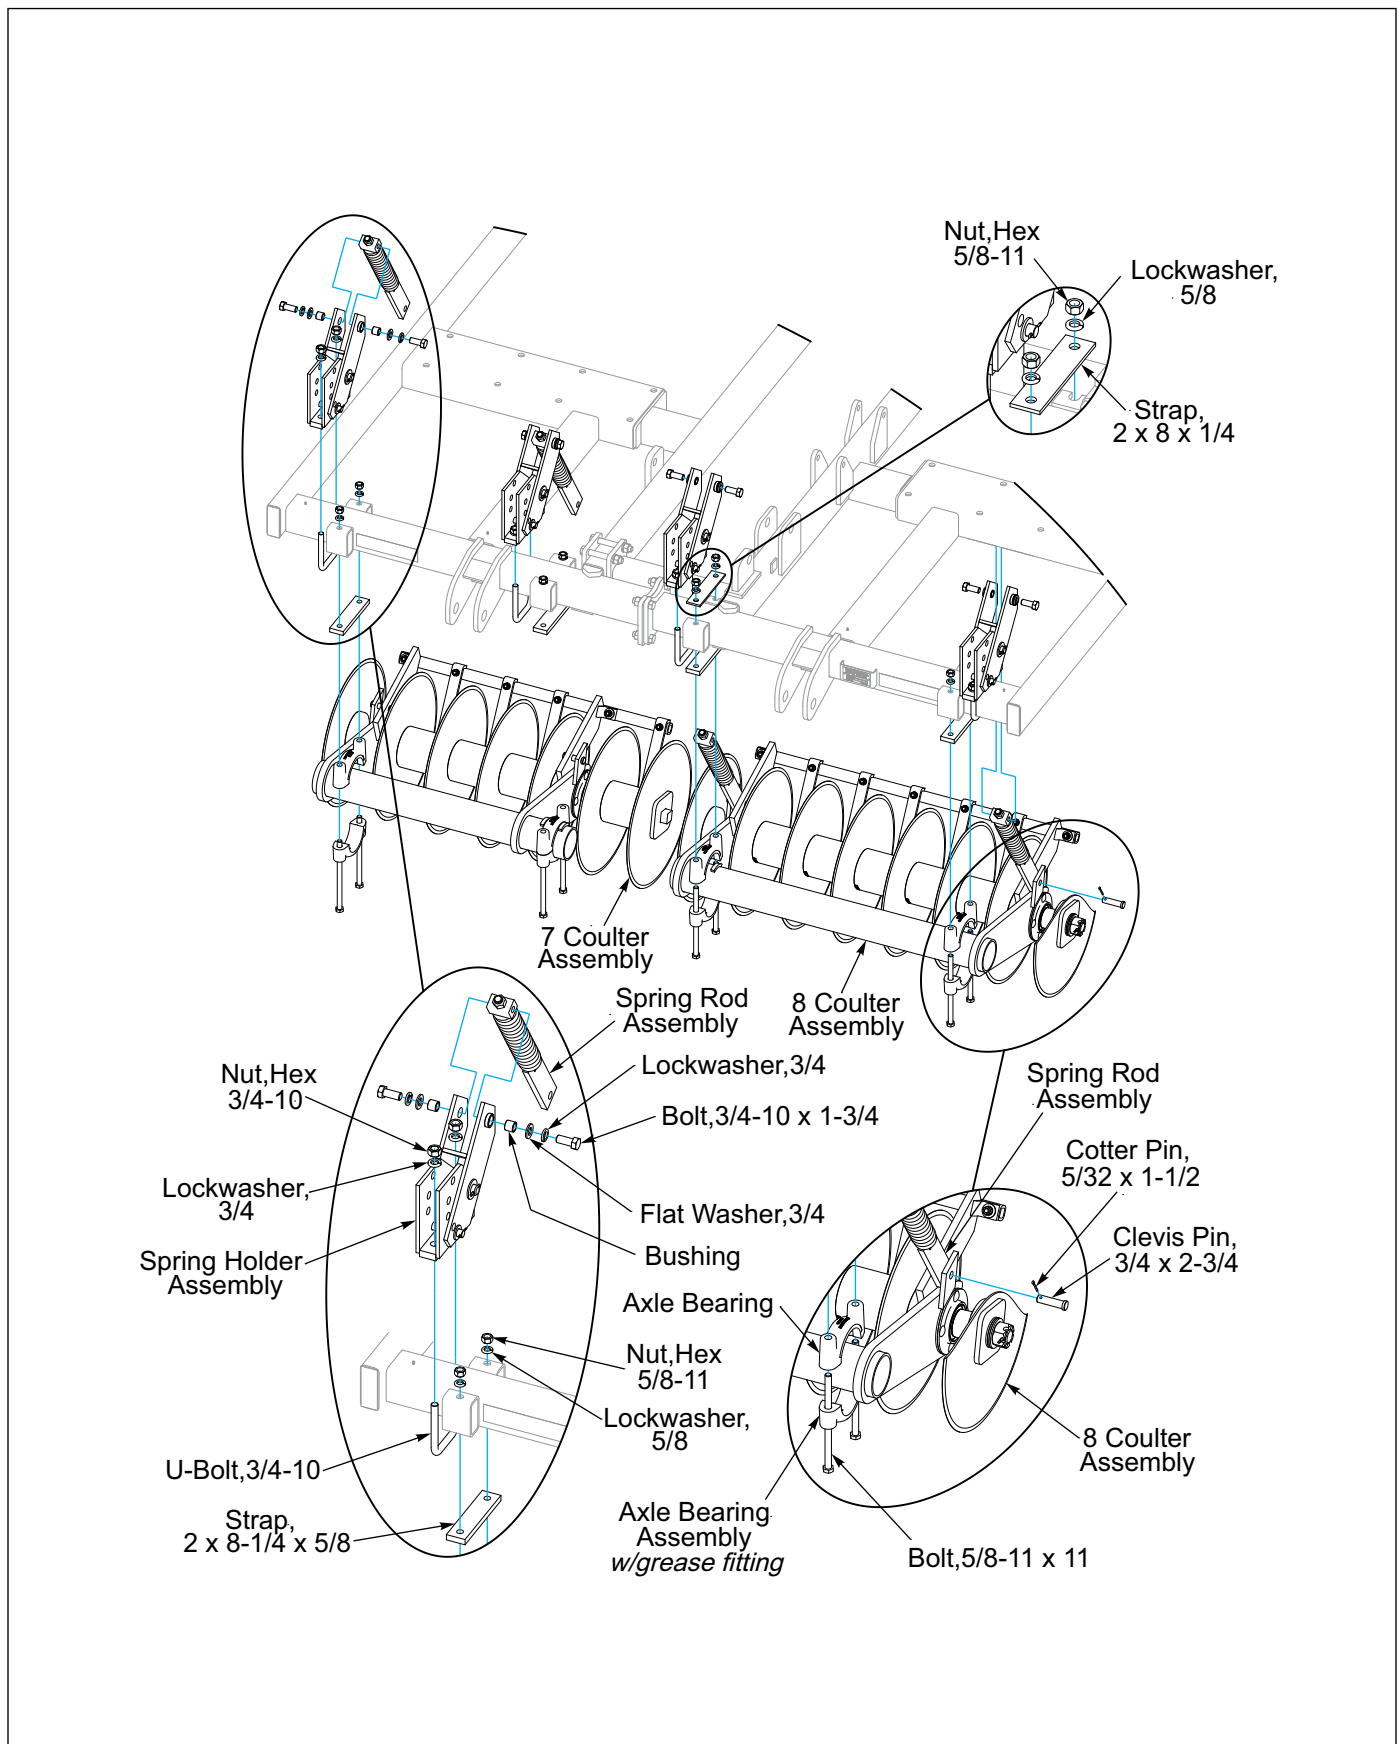

Figure 2-15: Manual Coulter Gang Installation
5. Install Spring Rod Assembly flat end between the Coulter Gang Assembly Lugs, secure with 3/4 x 2-3/4 Clevis Pin and 5/32 x 1-1/2 Cotter Pin. **See Figure 2-15.**